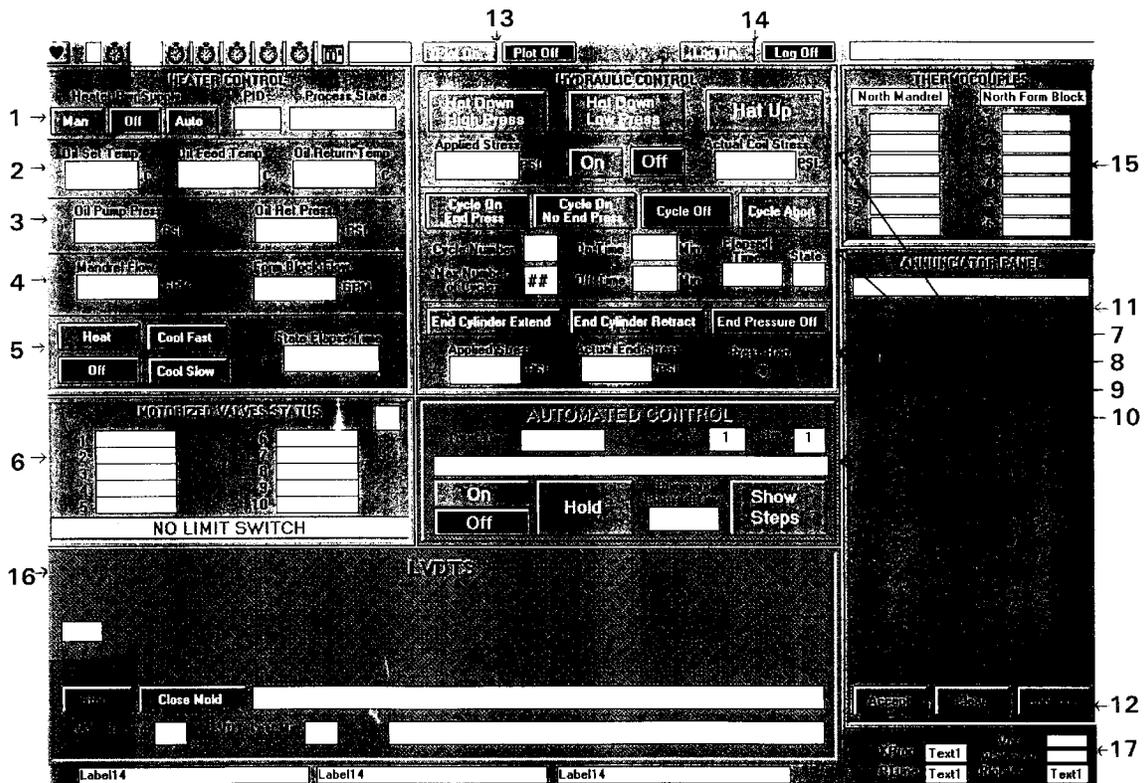

Figure 1. Computer Control Panel
1. Location numbers refer to those called out on Figure 1, "Computer Control Panel."